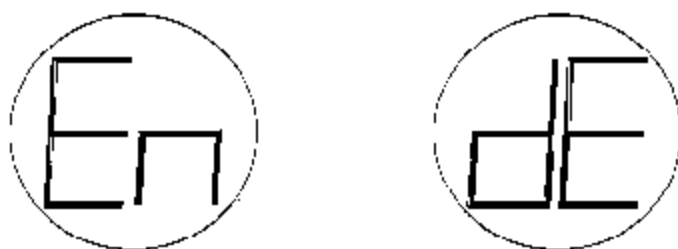

figure 19
- The display will alternate between "En" and "dE" (figure 19), until the magnet is re-applied. Apply and remove the magnet when the desired option appears on the display. "En" stands for Energized and "dE" stands for De-Energized. When this selection has been made, the next option will appear.
- The Energized/De-Energized option for the Alarm relay will be displayed as in figure 19.